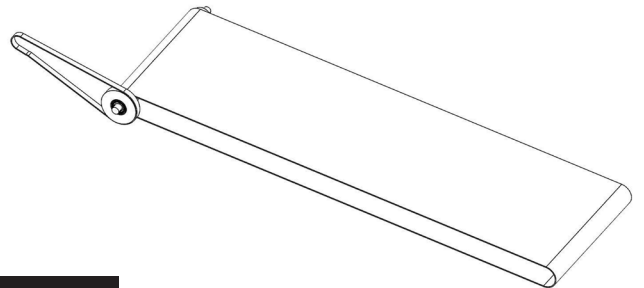

FIGURE 9
11. Remove front roller together with running belt and motor belt, see fig: 9